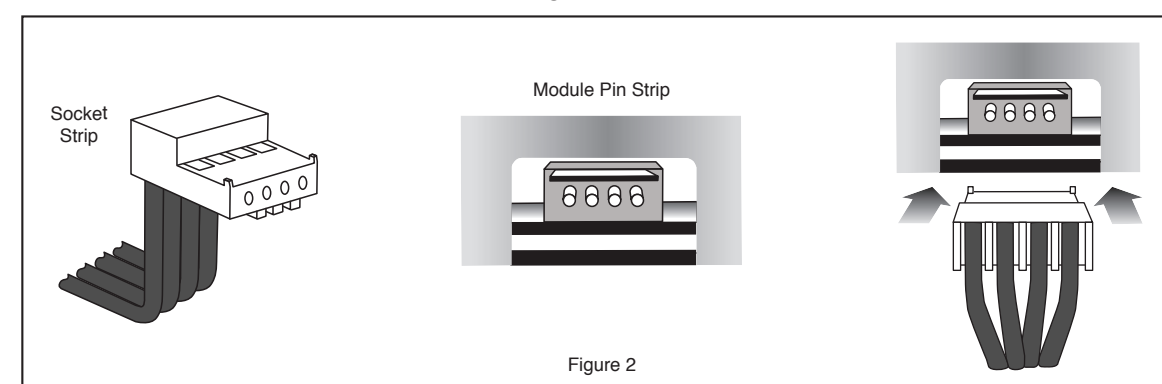

Figure 2
**CAUTION:** When plugging in connection cables, make sure the four contacts of the socket strip align exactly with the four contacts of the pin strip. See Figure 2.